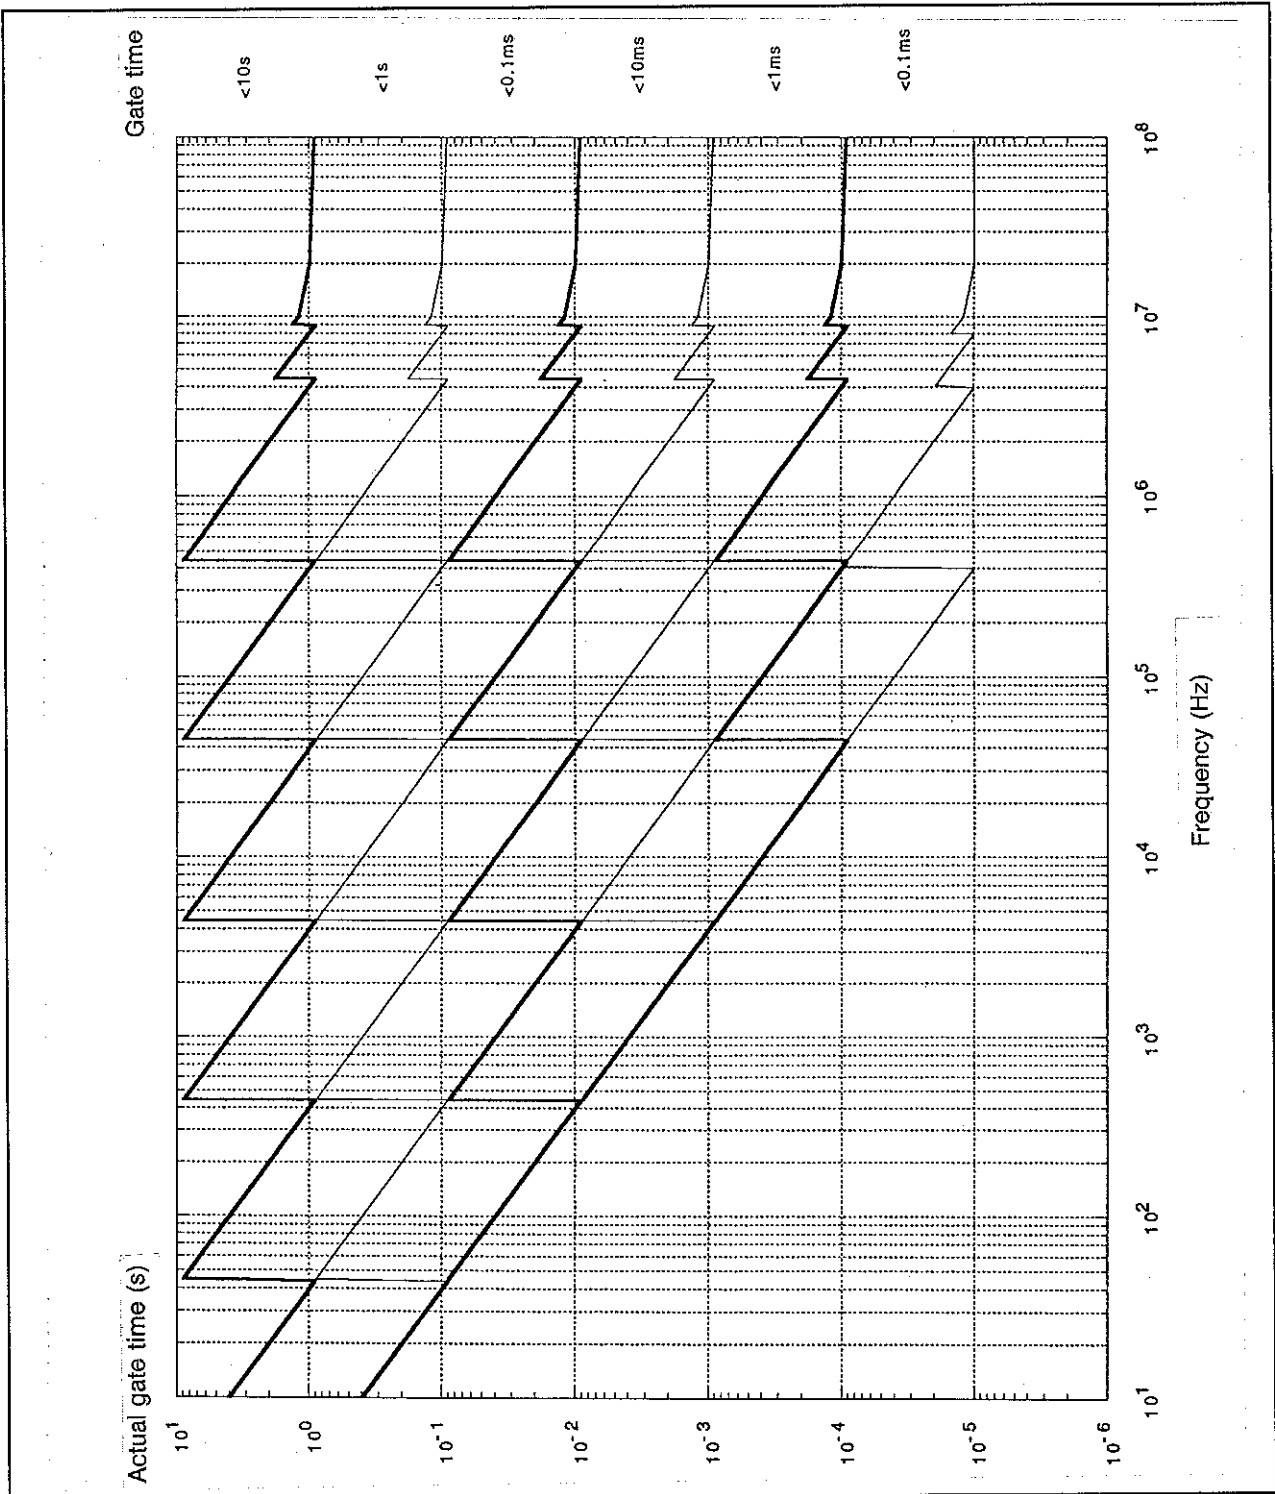

Figure 5-4 Relationship between DUT Signals and Gate Times (FREQ.B)
- ② Figure 5-4 shows the relationship between the preset GATE TIMES, the number of digits displayed, and the actual gate times.